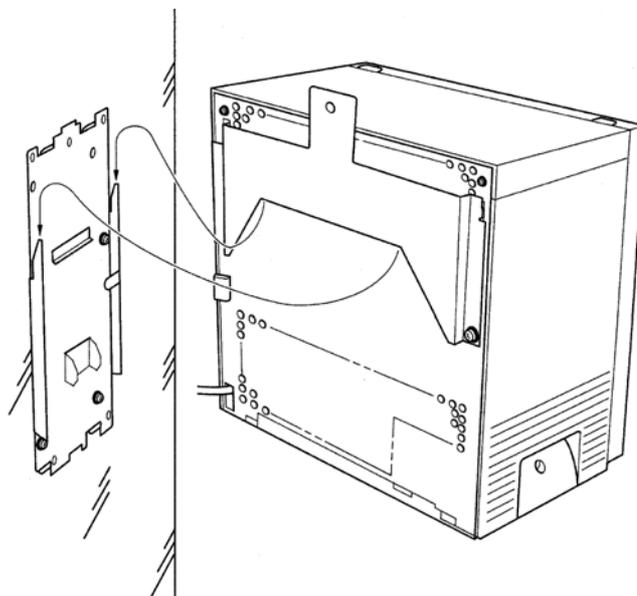

Figure 4-14 Hanging the Basic KSU on the Bracket
2. After the bracket is mounted to the wall, peel off the spacer backing. Place and adhere the spacer to the position shown in Figure 4-14 Attaching the Wall Mount Bracket With Spacer.
3. Hang the KSU on the two hooks protruding from the wall mount bracket as shown in Figure 4-14 Hanging the Basic KSU on the Bracket.
2. Hang the KSU on the two hooks protruding from the expansion wall mount bracket as shown in *Figure 4-14 Hanging the Basic KSU on the Bracket*.